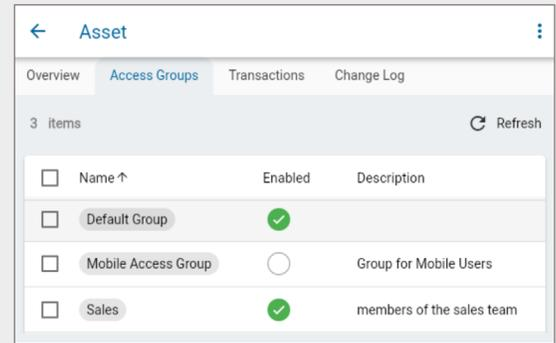

Fig. 65 – Asset screen – Access Groups tab
10. Select the **Access Groups** tab, as shown in Fig. 65.